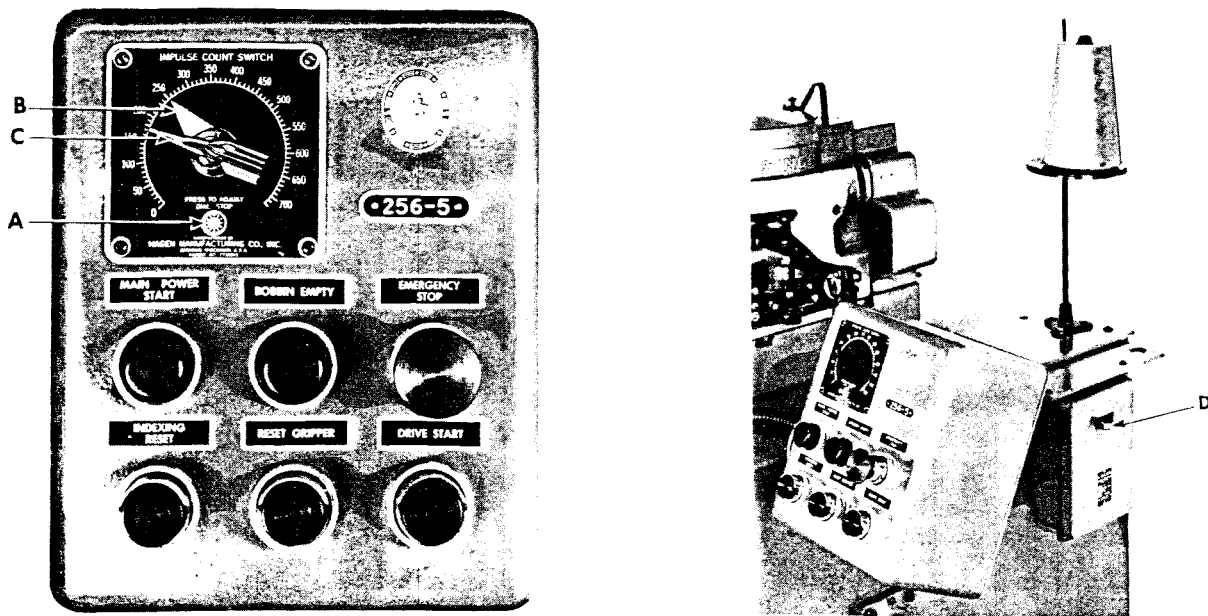
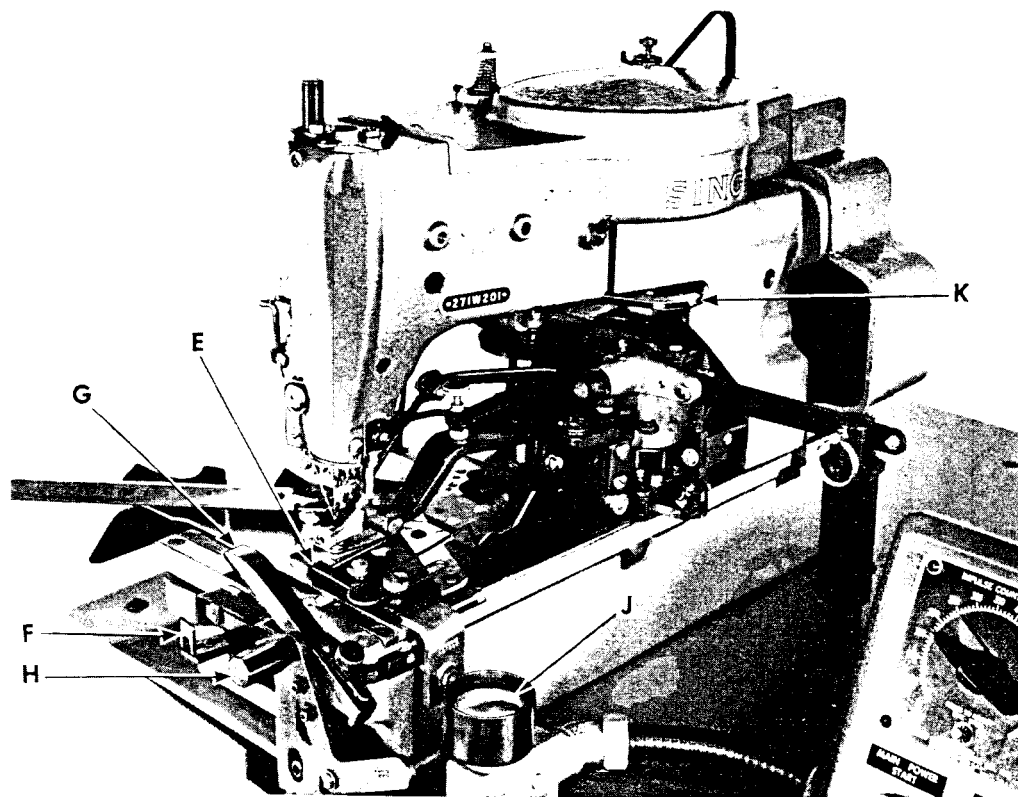
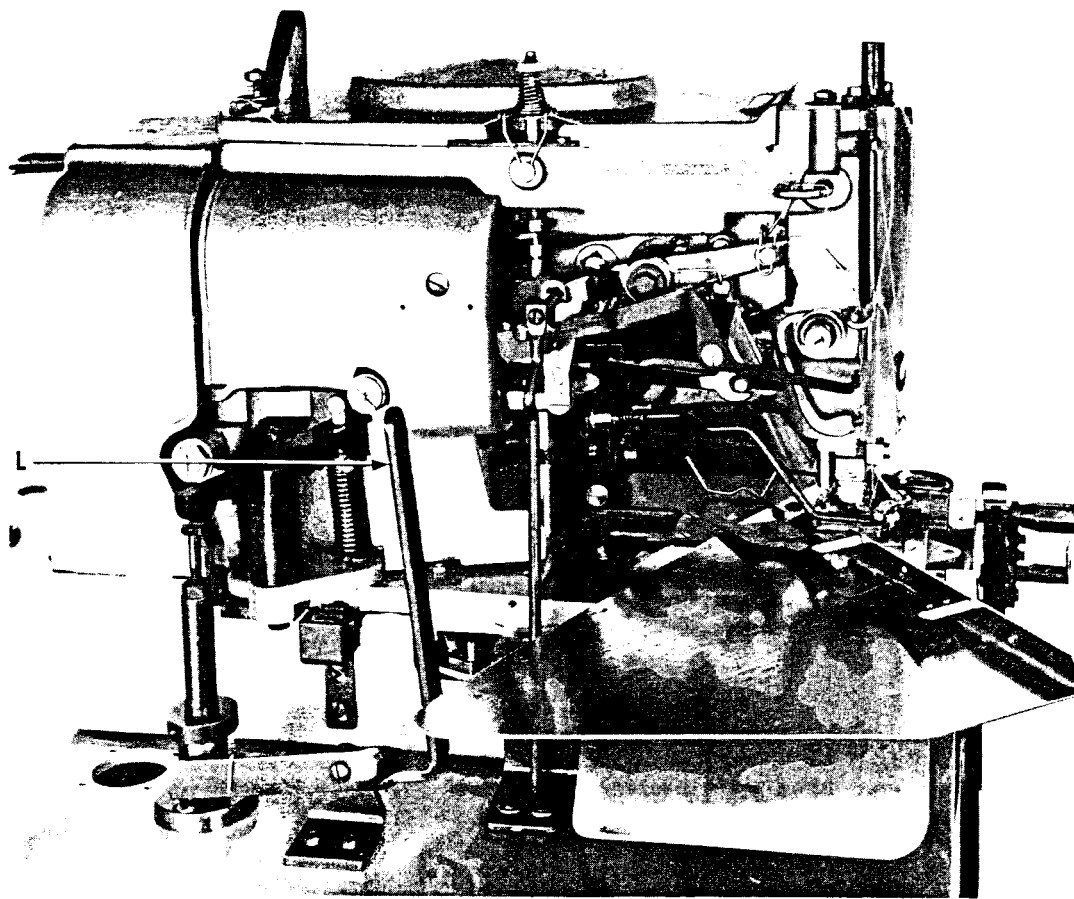

Fig. 2. Control Panel and Starting Switch
Fig. 3. To Start Sewing
Fig. 4. Manual Starting Lever
1. After determining the number of buttonholes a full bobbin will sew, press button A, Fig. 2 and set red stop dial B to this pre-determined number. Release button A. Then set black counter arrow C directly over stop dial B.
2. Turn on Main Power Switch D, Fig. 2...the "MAIN POWER START" Indicator, Fig. 2, will light.
3. Press "DRIVE START" Fig. 2...motor will start and magnetic clutch will engage. The unit is now ready to sew.
4. Place garment under work clamp with facing edge against guide E, Fig. 3 and end of garment at guide F.
5. Close upper gripper jaw G, Fig. 3 by pushing lever H to the right.
7. Press Auto Start J, Fig. 3... Work clamp lowers and machine starts to sew.
8. At the completion of the cycle (garment finished), the work clamp raises and gripper jaw G, Fig. 3 opens to release garment.
9. Re-load with next garment...press Auto Start J, Fig. 3 and machine will automatically complete the second garment.
10. After the pre-set number of buttonholes has been sewn, counter arrow C, Fig. 2 reaches "O" on dial, "BOBBIN EMPTY" indicator Fig. 2 lights and Auto Start J, Fig. 3 becomes inoperative (operator cannot start a new cycle).
11. Remove empty bobbin, replace with full bobbin, re-set counter arrow C, Fig. 2 and the machine is again ready to sew. (See Step 4.)
- (a) To complete unfinished buttonhole, re-thread machine and operate hand ratchet lever K, Fig. 3 until work clamp moves garment to desired position. Pull starting lever L, Fig. 4 and the machine will complete the unfinished buttonhole, then automatically continue its regular cycle.
The distance from buttonhole to facing edge of garment is adjustable from $\frac{3}{8}$ " to 1". To adjust, loosen the two screws in edge guide E, Fig. 3 and move guide to left or right as desired, then tighten the screws.
Loosen Allen screw which holds guide B, Fig. 2 and move guide in or out as desired, then tighten the screw.
Press "EMERGENCY STOP" Fig. 2.
When desired, machine can be started again without disturbing its cycle simply by pressing "DRIVE START" Fig. 2.